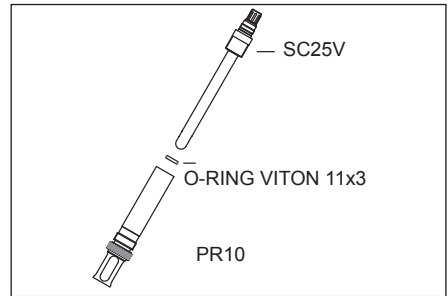

Figure 2
- PR10 retractable fitting (see fig 2).